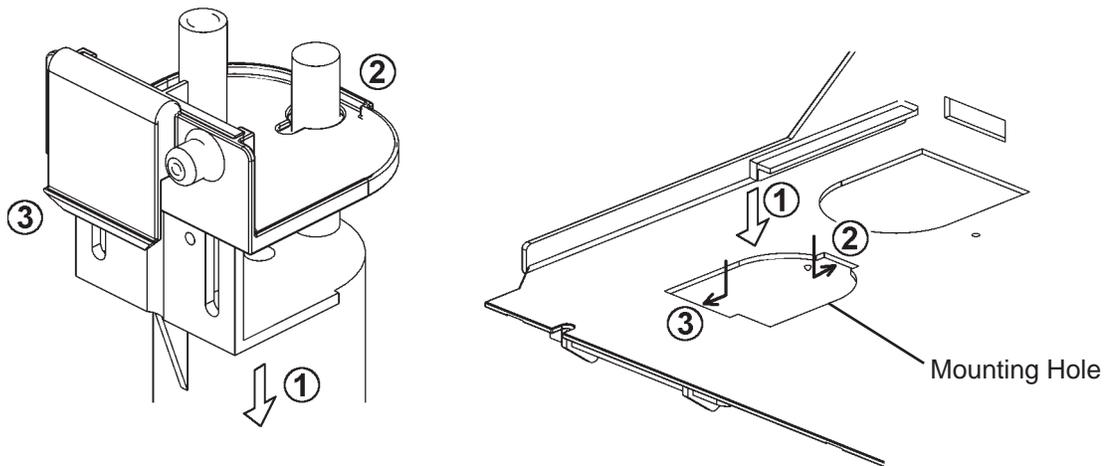

Fig. 11
- 10) Put the FS down into the mounting hole and hook it in position as shown. See Fig. 11. To ensure proper operation, be sure to fit the hook A under the mounting hole.